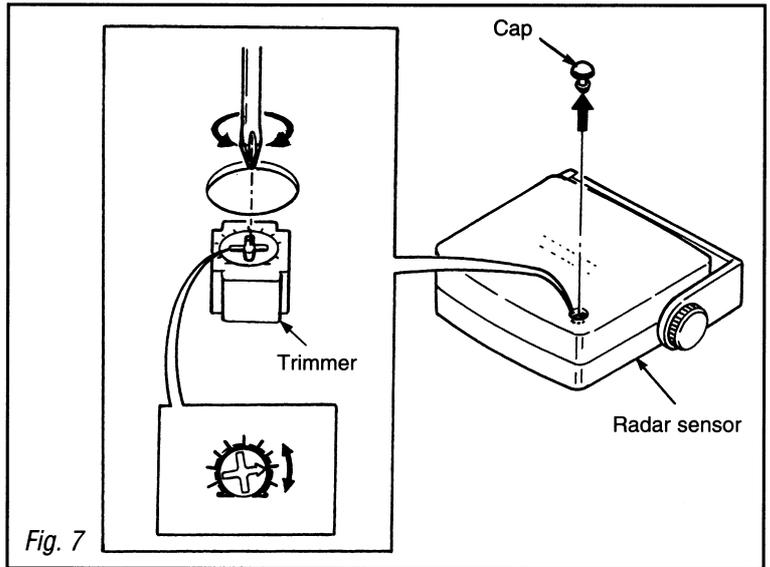

Fig. 7
9) Turn the trimmer of the radar sensor ONE scale position anti-clockwise. (see figure 7)
No	Push the "Disarming" button of the remote once to stop the alarm and disarm the system. Turn the trimmer of the radar sensor clockwise for one scale position. (See figure 7).